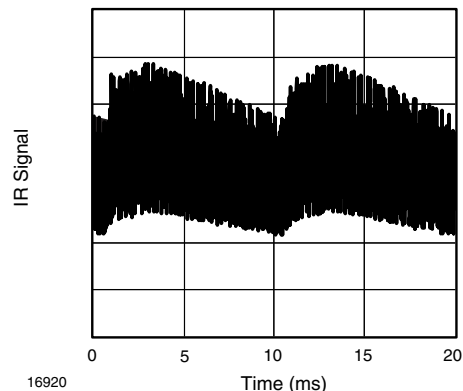

Fig. 14 - IR Disturbance from Fluorescent Lamp with Low Modulation
- Strongly or weakly modulated pattern from fluorescent lamps with electronic ballasts (see fig. 14 or fig. 15)